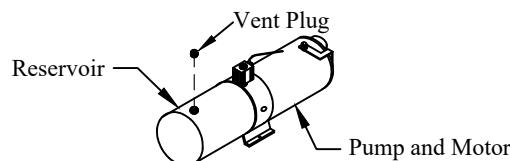

Figure 11: Vent plug.
7. Install the vent plug provided into the pump reservoir (Figure 11).